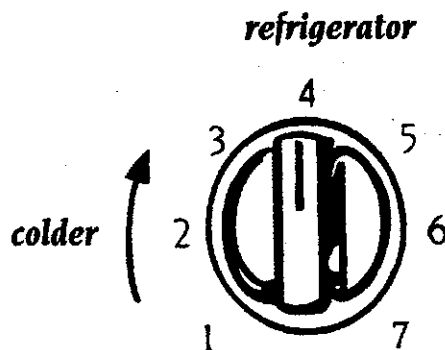

Figure 2
- Locate refrigerator control inside compartment on upper rear wall. Set control to "4" and adjust as desired after 24 hours. "1" is warmest setting; "7" is coldest setting. See Figure 2.